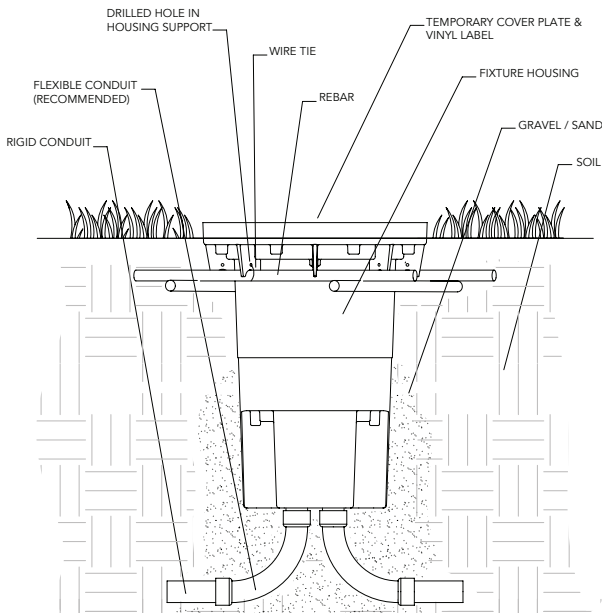

Figure 1
- Suitable for through wiring: Max. of (4) No. 12 AWG conductors (plus ground) rated for 90°C.
2. Dig hole approximately 15" in diameter to a depth suitable to make top of temporary cover plate 3/4" above grade (see fig. 1). Pea gravel or sand is recommended for seating the luminaire housing.
**NOTE:** For a more secure installation, rebar bracing is recommended. Drill a small hole in the stiffeners located on the side of the luminaire. Position rebar (by others) onto adjacent stiffeners and secure with wire-ties (see fig. 1).